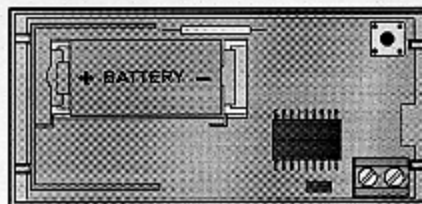

Figure 7 - Correctly-Installed Battery
- Install a recommended battery (see Section 2.0). Be sure to observe the proper polarity (see Figure 7).